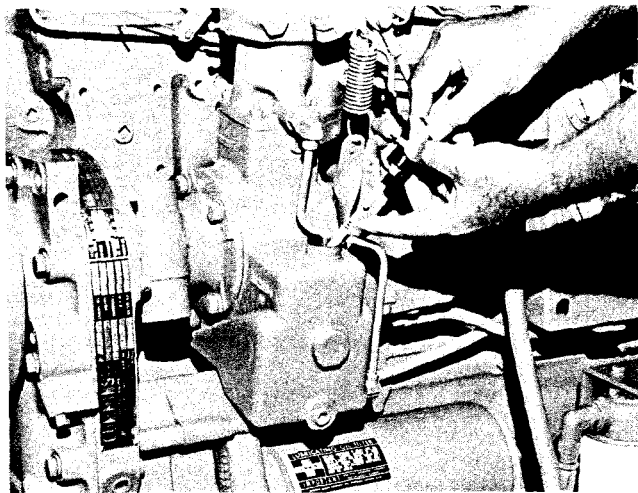

Fig. 2-13. Checking hydraulic governor oil level
2. Oil level in governor sump must be at full mark on dipstick. Fig. 2-13.